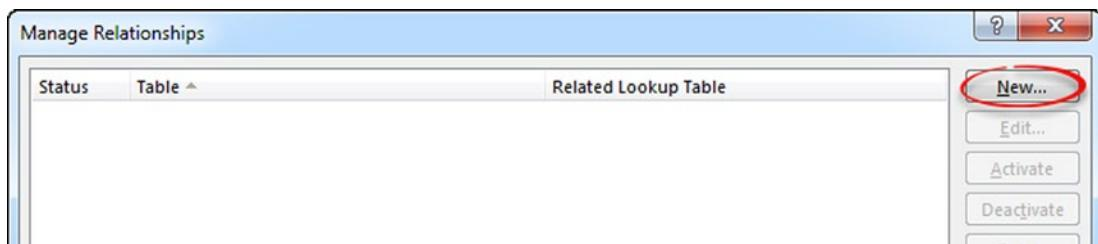

Figure 21-7. Manage Relationships dialog: Click New to add a new relationship
- This opens the Manage Relationships dialog box. Notice how empty and inviting it is! Let's add a few relationships. Click the New button (Figure 21-7). Where you would use VLOOKUP to look up IDs before, you can now create connections between different columns in your tables reflecting these relationships.